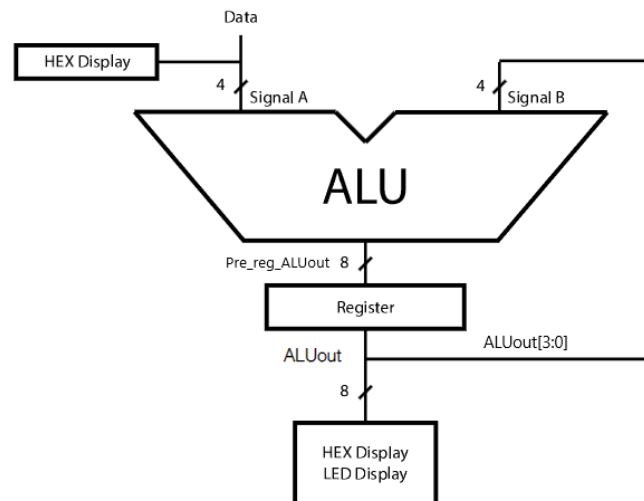

Figure 2: Simple ALU with register circuit for Part II.
Similar to Lab 3, you must now build an ALU with the four operations shown in Listing 2. *Note* that the operations here are not the same as in Lab 3. The output of the ALU is to be stored in an 8-bit *register* and the four least-significant bits of the register output are connected to the *B* input of the ALU. The 8-bit register should have an **active-high synchronous** reset. Figure 2 shows a high-level schematic of the ALU you must build.
1. *Prior to coming to the lab* write code that corresponds to the schematic on Figure 2. Your Verilog code should use the same names for the wires and instances as shown in your schematic. Use the code in Listing 1 as the model for your register code.